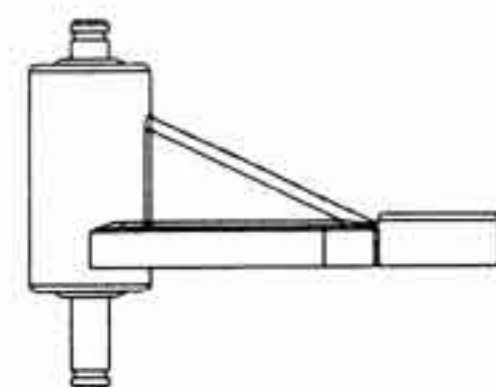

Figure 13A
Step 11. Insert a 3/32" x 3/16" bushing (40) into the two large holes in the bottom of the steering brace (41), chamfered end first. Insert the other two bushings (40) into the two holes in the main chassis (2).
Step 12. Insert a 3/32" x .930" hinge pin (42) through the hole in the steering idler arm (36) and position it as shown in fig. 13A. Place the servo saver assembly and the steering idler arm (36) into the bushings (40) in the chassis (2) so that the installed drag link is in the front.
Step 13. Place the steering brace (41) on top of the servo saver assembly and steering idler arm (36) being sure that the bushings (40) slide over the pins.
Step 14. Attach the steering brace to the chassis (2) using two 4-40 x 3/8" cap head screws (12).